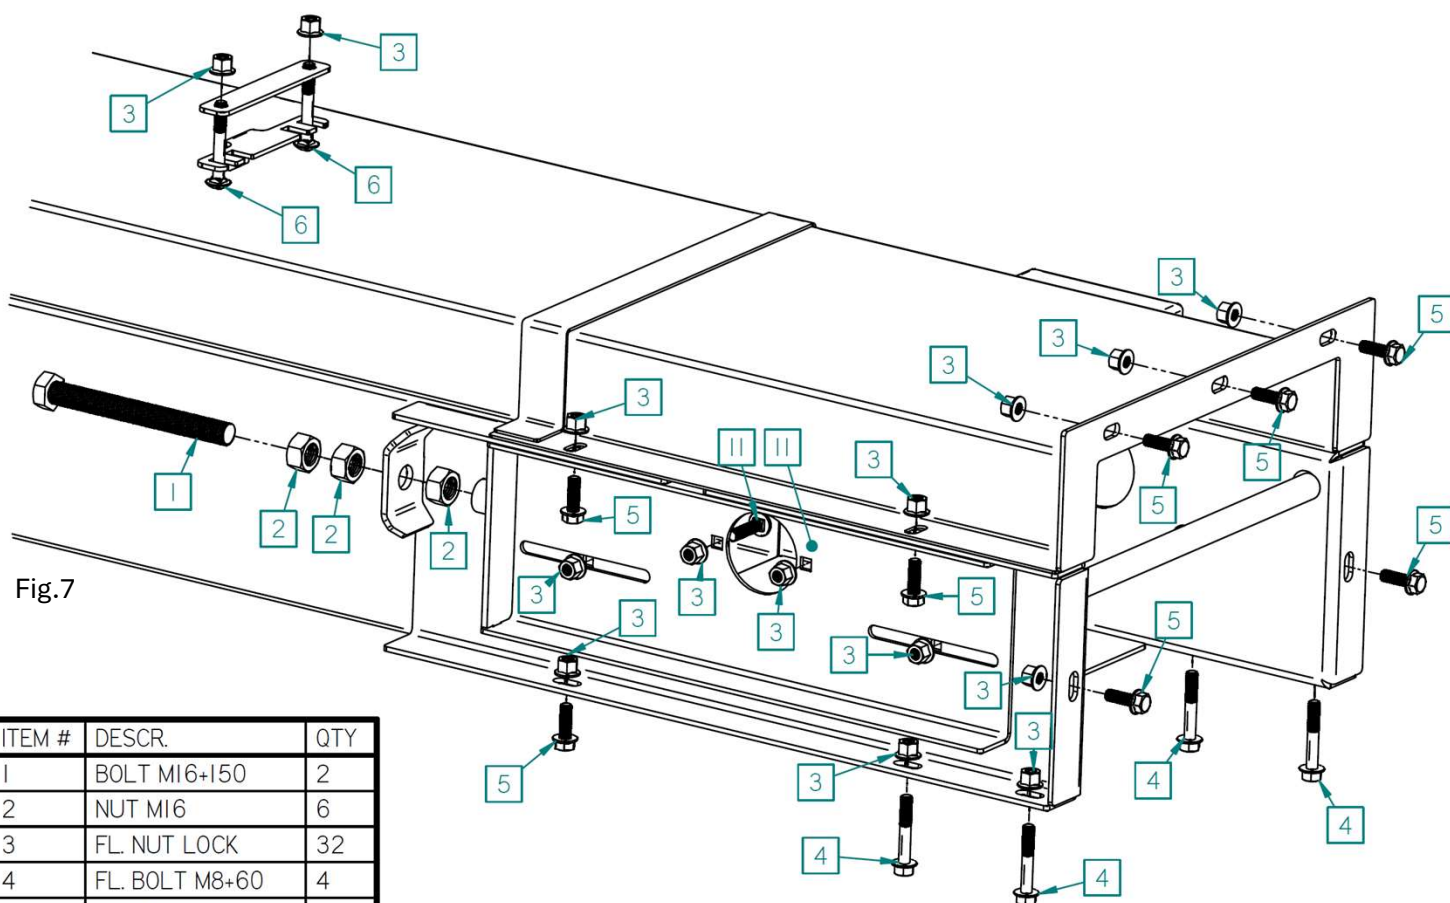

Fig.7
- Tension belt forward an additional 2". This will make distance as shown in Fig.7 approximately 3.25" for most belts.